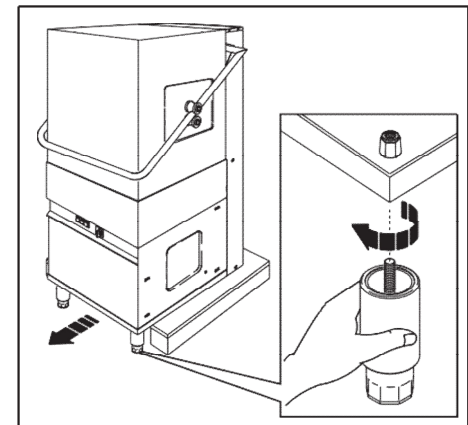

Fig. 4
3. Slide the machine on the pallet until releasing two of the four holes present to insert the supporting feet (fig. 4).
Take one of the supplied feet and screw the screw in one of the two released seats (fig. 4).
Assemble the second leg following the same procedure (fig. 4).